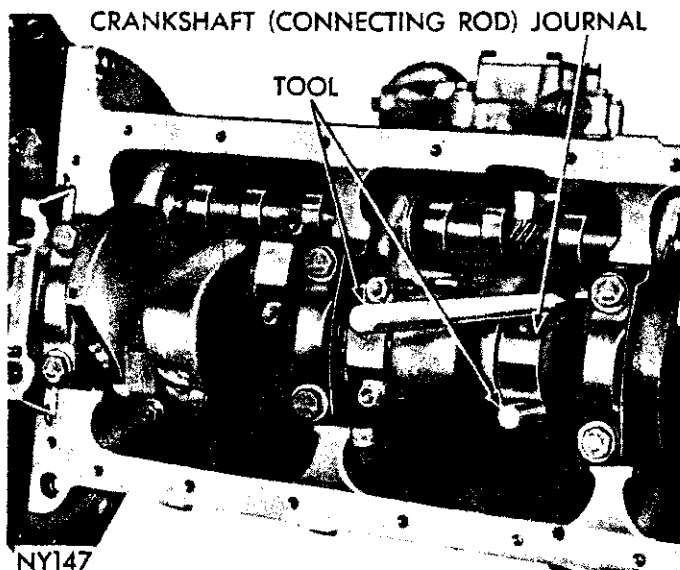

Fig. 41—Removing and Installing Connecting Rod
(1) Compression ring gaps should be located on the left side of the engine and staggered about 60° apart. Neither gap should line up with oil ring rail gaps.
(2) Rotate oil ring expander so that ends are at right side of engine. Rotate steel rails so that gaps are approximately opposite and positioned above piston pin holes.
(3) Immerse piston head and rings in clean engine oil. Slide the ring compressor, Tool C-385, over the piston and tighten with special wrench (part of Tool C-385). **Position of rings must not change during this operation.**
(4) The notch on top of piston must point toward front of engine so that squirt hole in connecting rod is toward right side of engine.
(5) Install connecting rod bolt protectors on rod bolts, the long protector should be installed on squirt hole side of connecting rod. **Rotate crankshaft so that connecting rod journal is on the center of cylinder bore.**
(6) Insert rod and piston into cylinder bore and guide rod over the crankshaft journal (Fig. 41). Be careful not to nick connecting rod journals.
(7) Tap piston down in cylinder bore, using handle of a hammer. At the same time, guide connecting rod